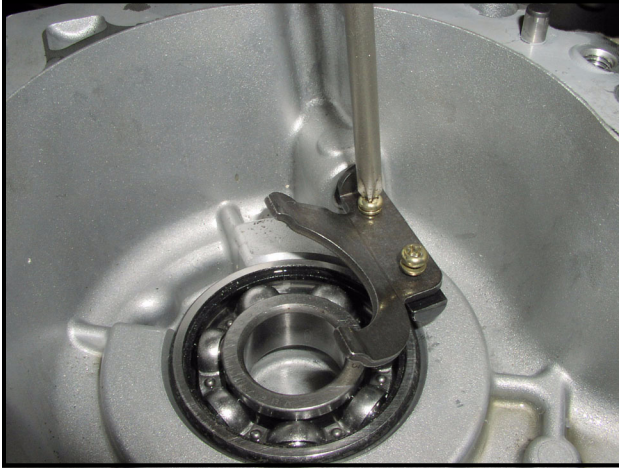

Figure 8-10 Ground Speed Governor Yoke Bracket
8. Remove the ground speed governor yoke bracket from the governor shaft (**Figure 8-10, Page 8-5**).